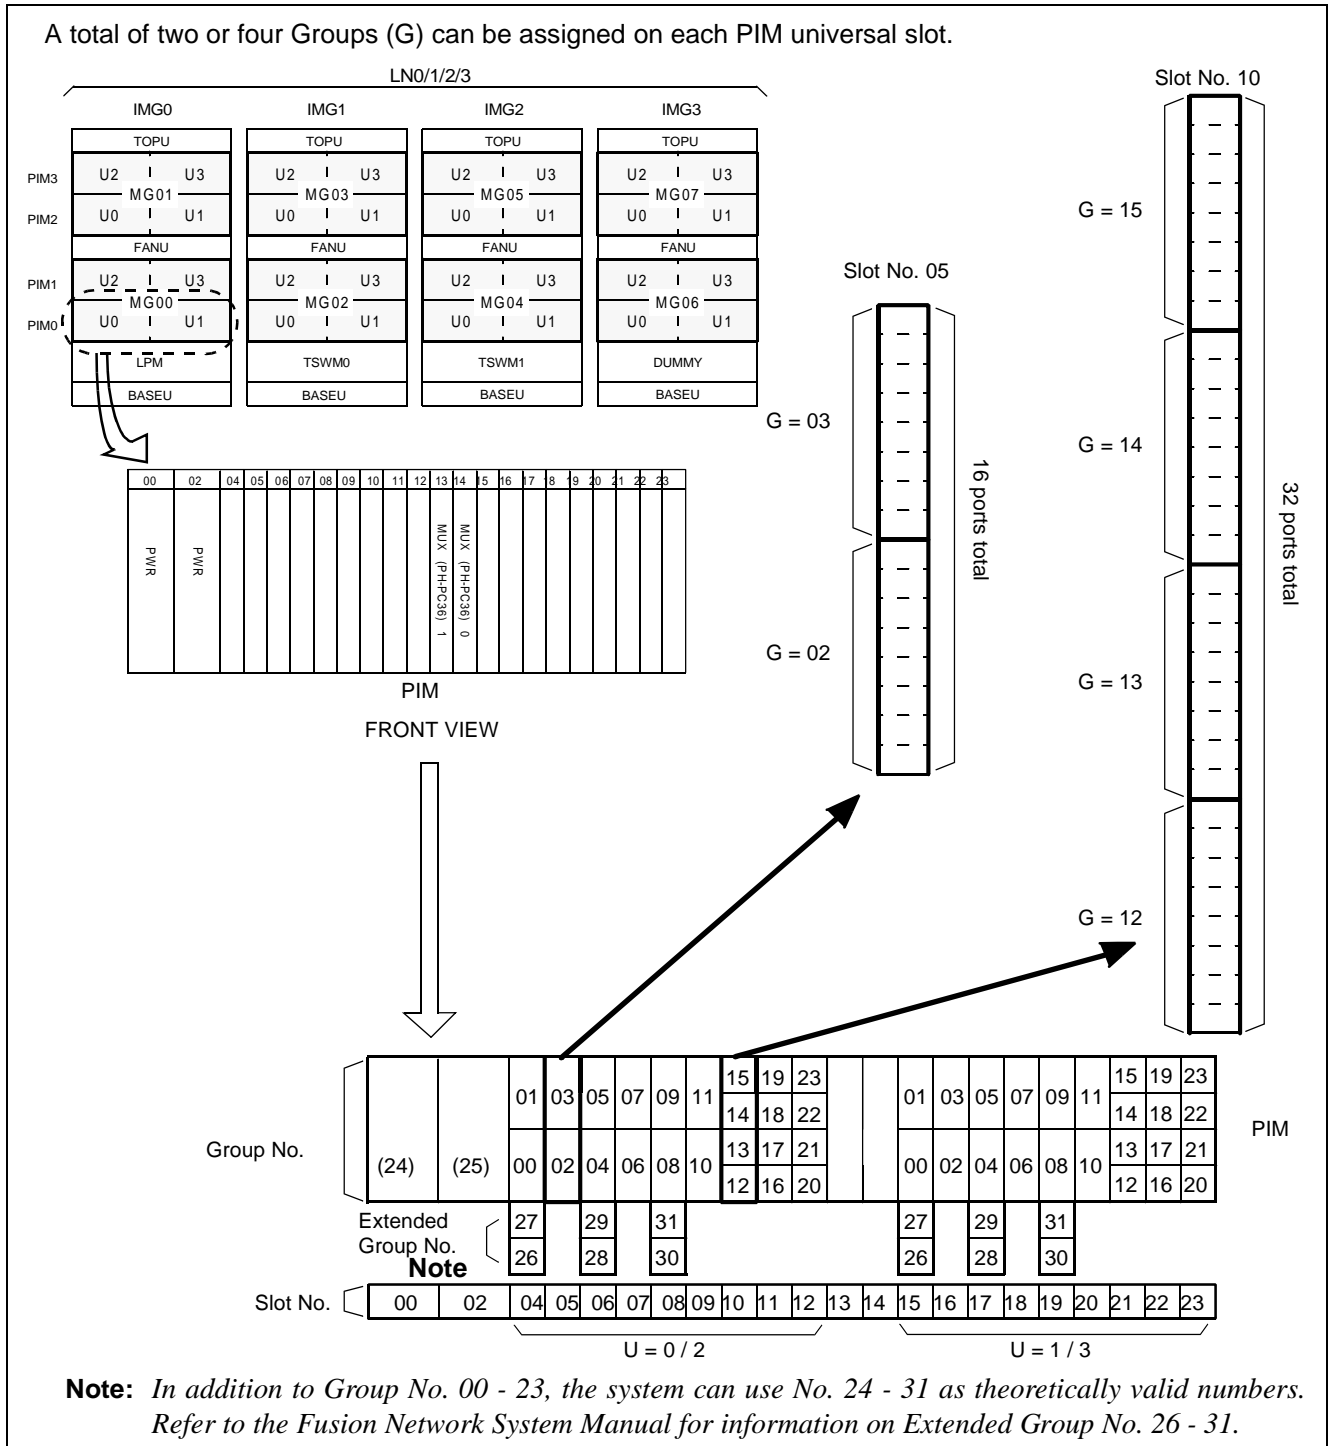

Figure 2-15 Group Number Allocations (LN0/1/2/3)
The Group (G) numbers are allocated as shown in Figure 2-15. A total of two Groups are assigned on each universal slots within the PIM. Slot numbers 10, 11, 12, 21, 22, 23 can contain a total of four Groups as an exception.